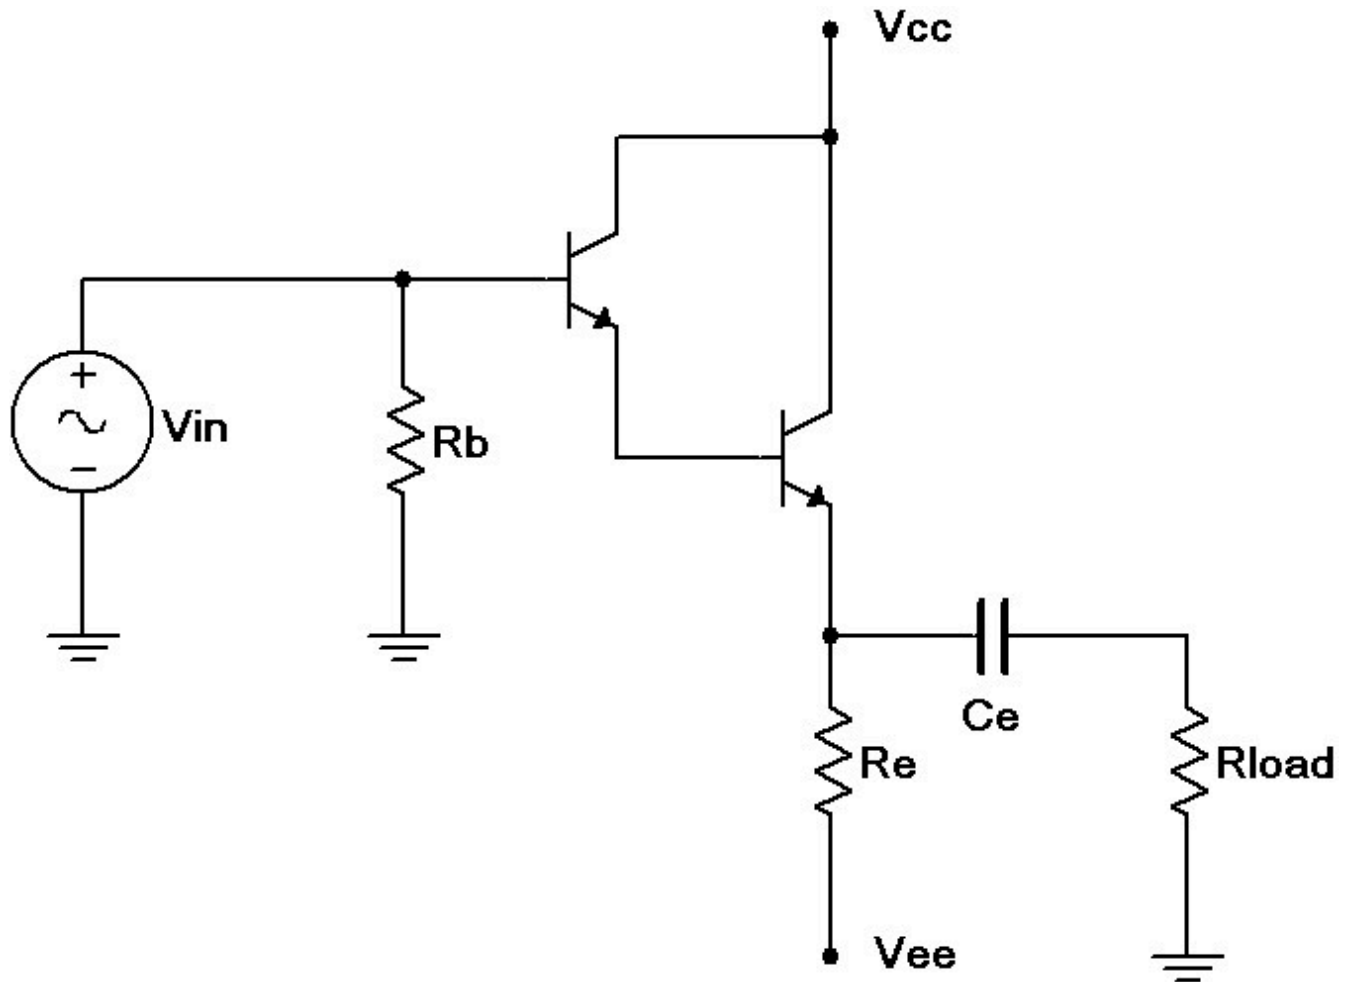

Figure 1
1. Consider the circuit of Figure 1 using $V_{cc} = 5$ volts, $V_{ee} = -12$ volts, $R_b = 47\text{ k}\Omega$, $R_e = 1\text{ k}\Omega$, $R_{load} = 100\text{ }\Omega$ and $C_e = 470\text{ }\mu\text{F}$. Determine the theoretical I_{CQ} , V_{CEQ} , $v_{CE}(\text{cutoff})$ and $i_{C}(\text{sat})$, and record these in Table 1. It is helpful to plot the AC load line for step three. Note that the collector-emitter saturation voltage for a Darlington pair cannot be assumed to be 0 volts, and may be closer to one volt, thus reducing the expecting voltage swing toward the saturation point. It is also worth noting that this amplifier has a direct coupled input (i.e., no input capacitor is required due to the very small DC base voltage).
2. Build the circuit of Figure 1 using $V_{cc} = 5$ volts, $V_{ee} = -12$ volts, $R_b = 47\text{ k}\Omega$, $R_e = 1\text{ k}\Omega$, $R_{load} = 100\text{ }\Omega$ and $C_e = 470\text{ }\mu\text{F}$. Disconnect the signal source and measure the DC transistor voltages to ensure the circuit is biased correctly. Record V_{CEQ} and I_{CQ} in Table 1 (Experimental).